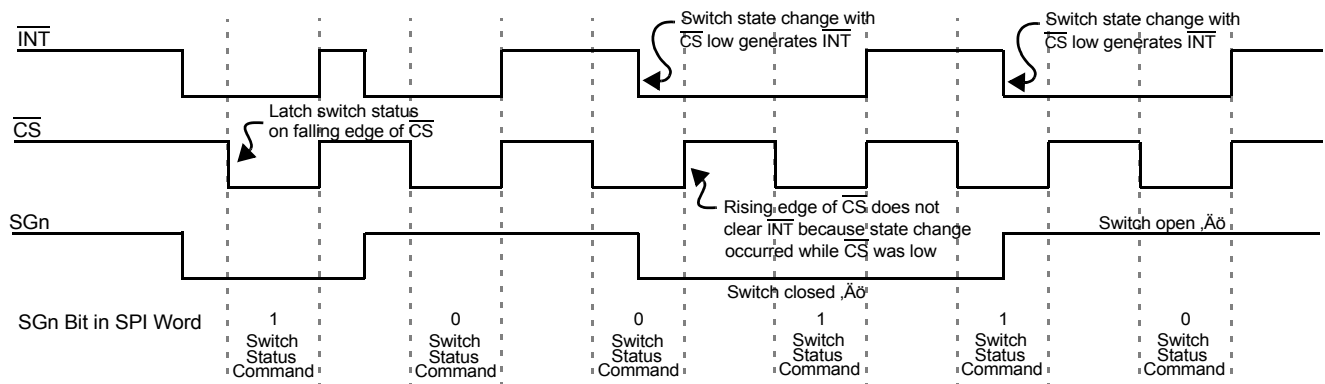

Figure 6. Normal Mode Interrupt Operation
1.  $\overline{INT}$  pin is reset to logic [1], except when additional switch changes occur during  $\overline{CS}$  low (see Figure 6, page 11).
Figure 6, page 11, is a graphical description of the device operation in Normal mode. Switch states are latched into the input register on the falling edge of  $\overline{\text{CS}}$ . The  $\overline{\text{INT}}$  to the MCU is cleared on the rising edge of  $\overline{\text{CS}}$ . However,  $\overline{\text{INT}}$  will not clear on the rising edge of  $\overline{\text{CS}}$  if a switch has closed during SPI communication ( $\overline{\text{CS}}$  low). This prevents switch states from being missed by the MCU.